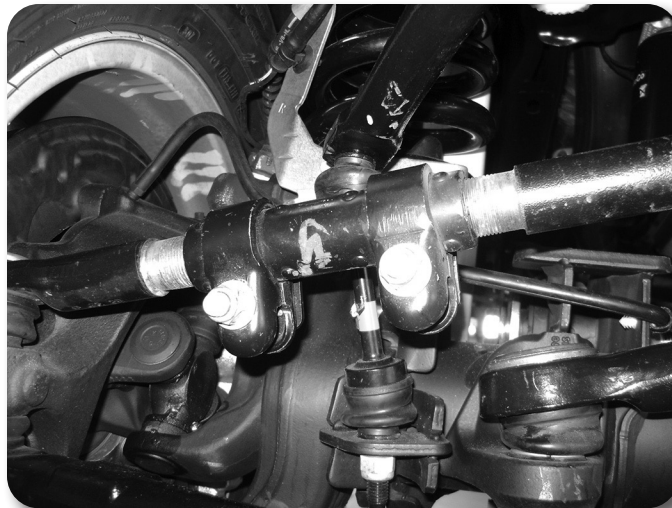

Figure 31B \*Correct\*
4. Adjust steering wheel with adjustment on the draglink, do NOT drive the vehicle with the steering wheel off-center or adverse traction control affects may arise. Rotate the clamps once the steering wheel is straight as shown. (Figure 31A - incorrect, clamps will interfere with sway bar, Figure 31B - correct clearance). Torque clamps to 41 ft-lbs. Thread the collar to lengthen the drag link.